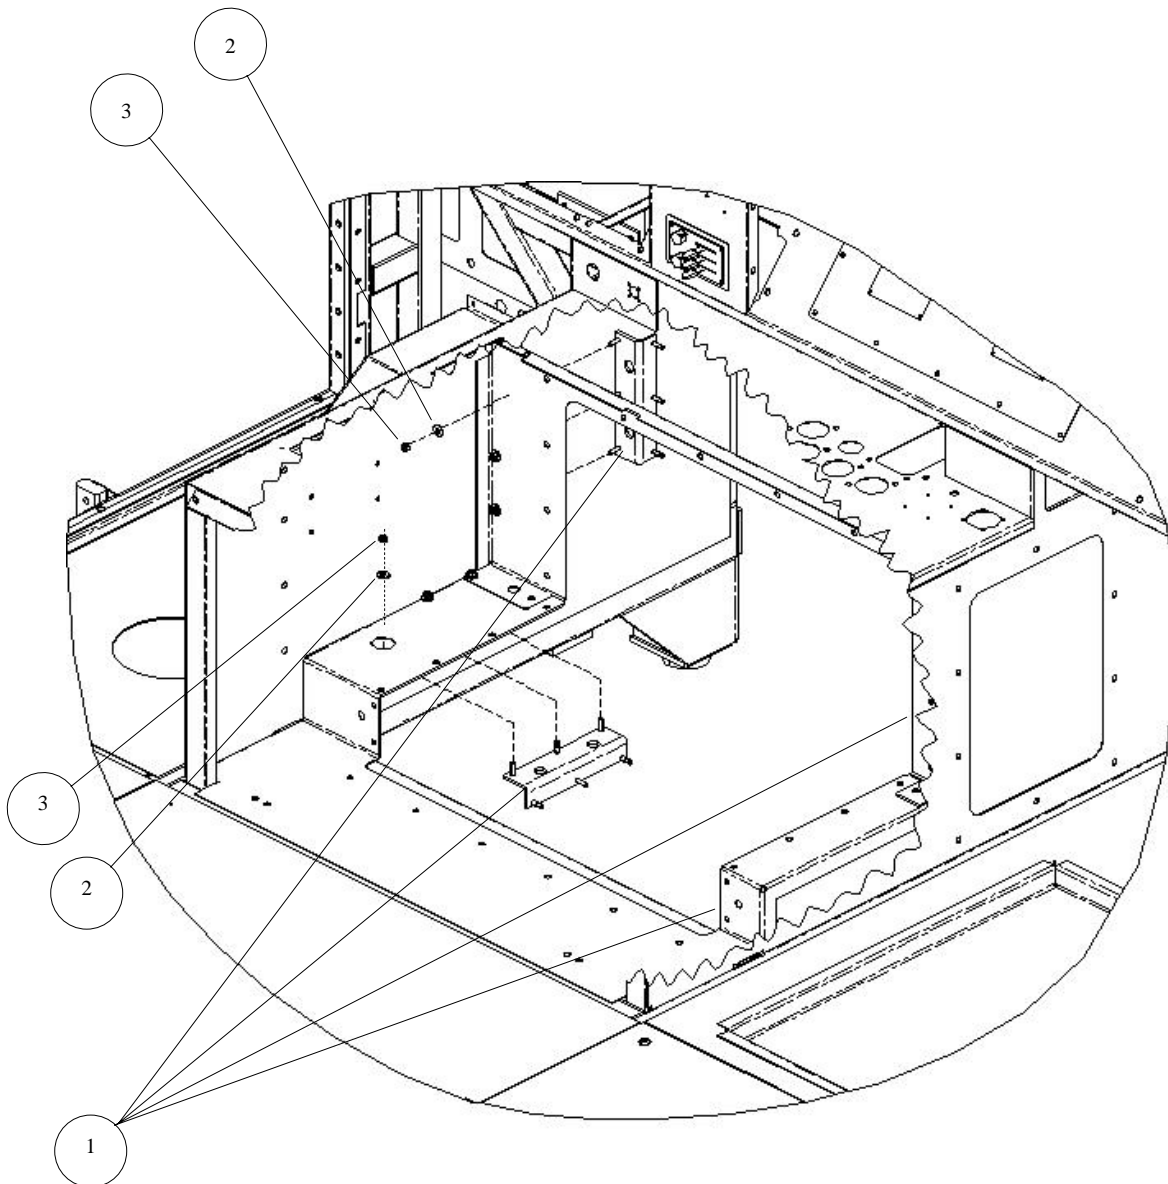

Figure 3-43. Doghouse Inner Bracket Installation.
5. Install doghouse inner brackets as follows (see Figure 3-43):
- b. Install four doghouse inner brackets (1) (into previously drilled holes from Step 2.) and secure each with three flat washers (2) and locknuts (3). Torque locknuts to 23 lb-ft.